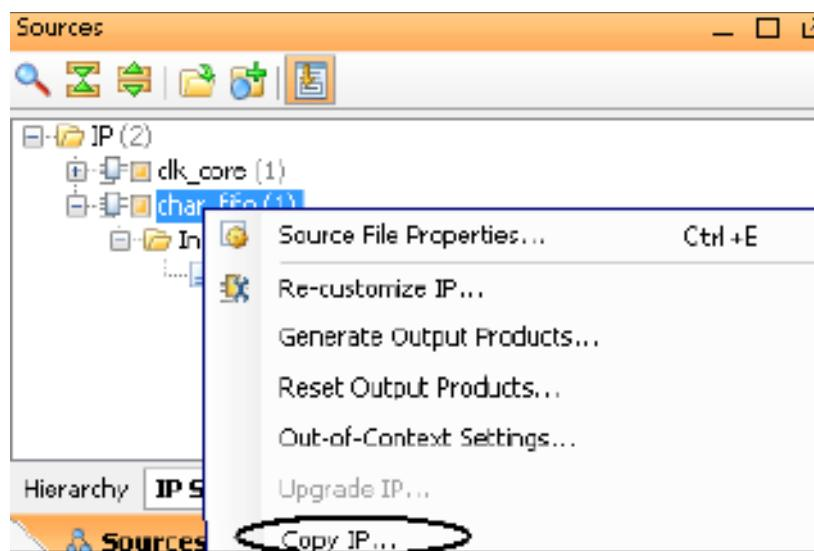

Figure 2-23: Select IP to Copy
1. In the IP Sources tab, select the IP, right-click and select **Copy IP**, as shown in Figure 2-23, page 35.